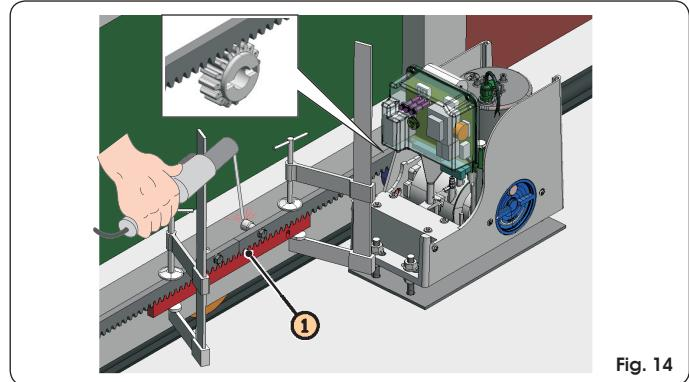

Fig. 14
- Fit another rack element next to the previous one, using a piece of rack, as shown in Fig. 14 ref. ①, to synchronise the teeth of the two elements.
- ① Manually move the leaf to its opening position.
- ② Rest the first section of rack on the pinion, positioning the spacer between the rack and the edge of the gate. Using a spirit level, check if the rack is horizontal and mark the perforation point with a felt-tipped pen.
- ③ Drill with a 6.5 mm diameter bit, and thread with an M8 male element. Screw the bolt.
- ④ Manually move the gate, checking if the rack is resting on the pinion and repeat the operations in point ③.
- ⑤ Fit another rack element next to the previous one, using a piece of rack, as shown in Fig. 14 ref. ①, to synchronise the teeth of the two elements.
- ⑥ Move the gate by hand and perform the securing operations as for the first element, carrying on like this until you have covered the gate completely.